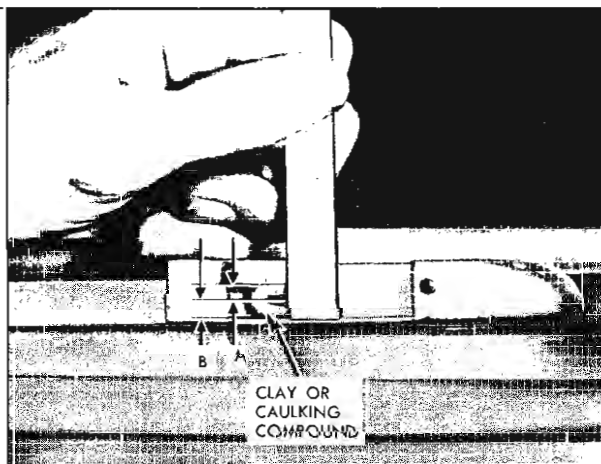

Fig. 14-15 Back Door Lock Striker Engagement Check
b. To determine if lock striker emergency spacers are required, apply modeling clay or body caulking compound in the lock striker notch where the lock extension engages; then, close the back door to form a measurable impression in the clay or caulking compound (Fig. 14-15).